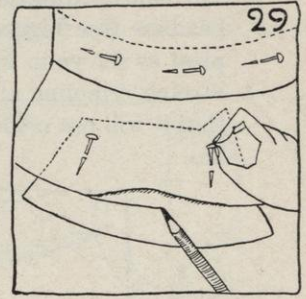

FIG. 29.
- (6) Should you find that in spite of great care your edge is a little uneven, you may straighten the line by adding a piece and pinning it as shown in Figure 29, and penciling. An edge usually has a gradual line, therefore, when penciling do not run off abruptly.